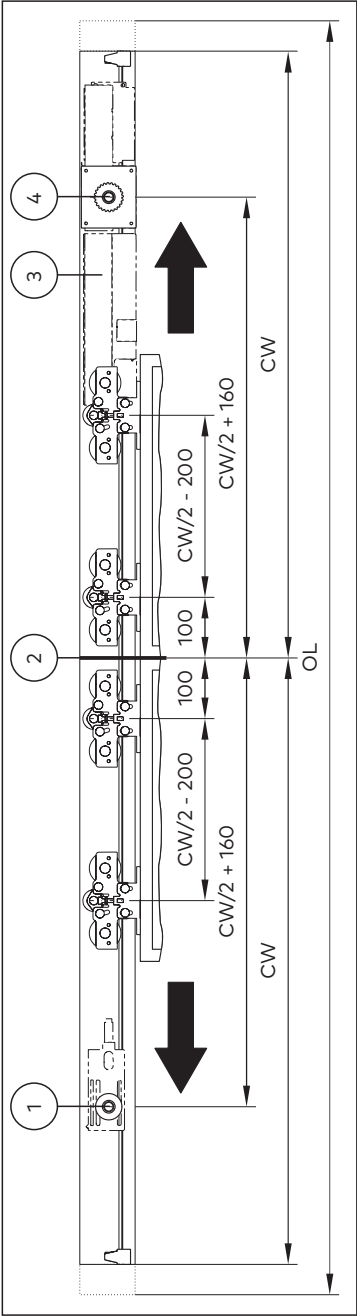
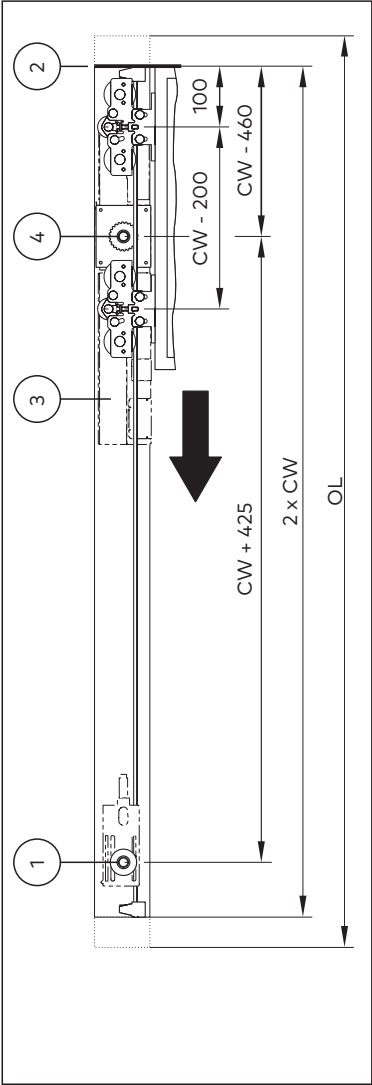
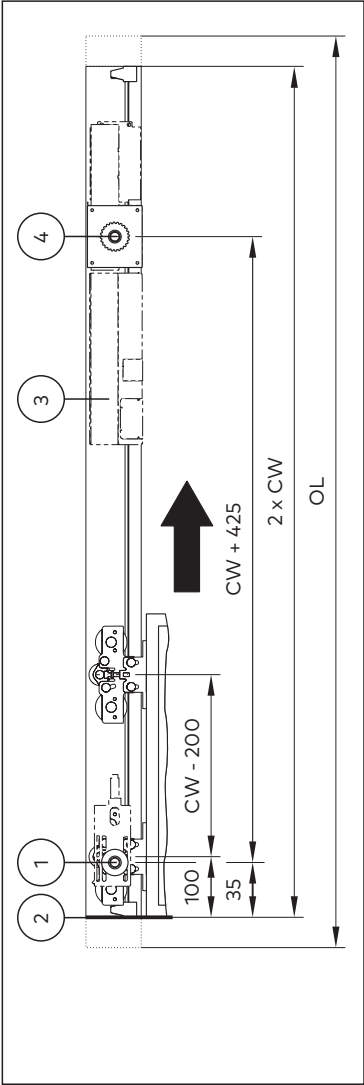

Fig. 3
Fig. 4
Fig. 5
3. Position the attachment strip so that the middle threaded bolt is on the position for the center of the operator wheel, see Fig. 3, Fig. 4 and Fig. 5.